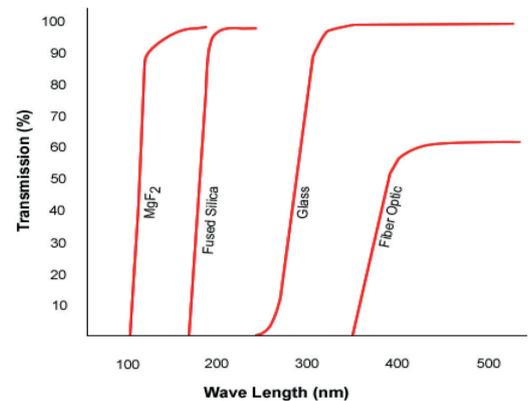

Figure 2: Transmission of input windows.
The input window of an image intensifier is selected to have good transmission for the light being imaged and typically determines the short wavelength response of the image intensifier. Example window materials are given in Figure 2. The photocathode is a thin film semi-conductor grown on the inside surface of the glass input window. The photocathode material is selected to provide high sensitivity to the light being imaged. When a photon, or quanta of light, is absorbed in the photocathode an electron is freed and can be emitted from the vacuum surface of the photocathode as a photo-electron (pe). The photocathode’s Quantum Efficiency (QE) is defined as the ratio of photoelectrons emitted from the photocathode’s surface (N_{pe}) to the number of photons incident on the photocathode ($N_{photons}$).
1. Lower wavelength cut-off is determined by the input window given in Figure 2, Fused Silica is assumed except for Csl which uses MgF2.